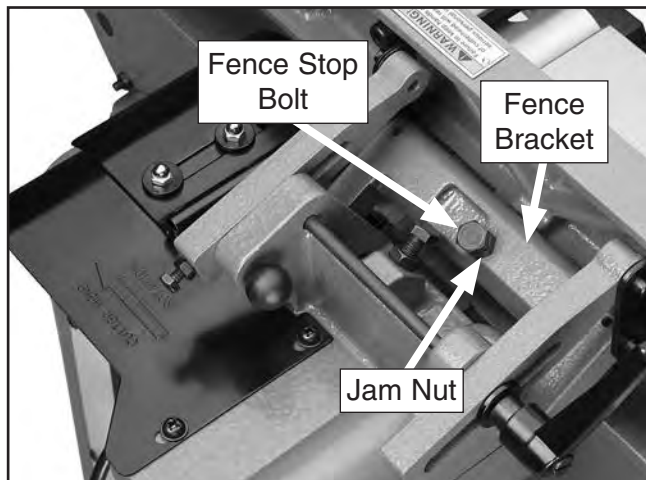

Figure 72. 45° inward fence stop bolt.
2. Loosen the jam nut shown in **Figure 72**.